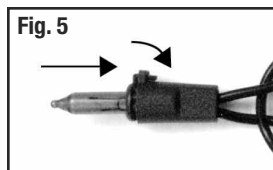

Fig. 5
4. **SHAPING:** Branches should fall into place during assembly. If any branches remain upright, gently lower them into proper position (Figure 5). See **IMPORTANT NOTE** below.
4. Carefully insert new bulb into socket and push down Base Lock™ until it snaps into place (Figure 5).